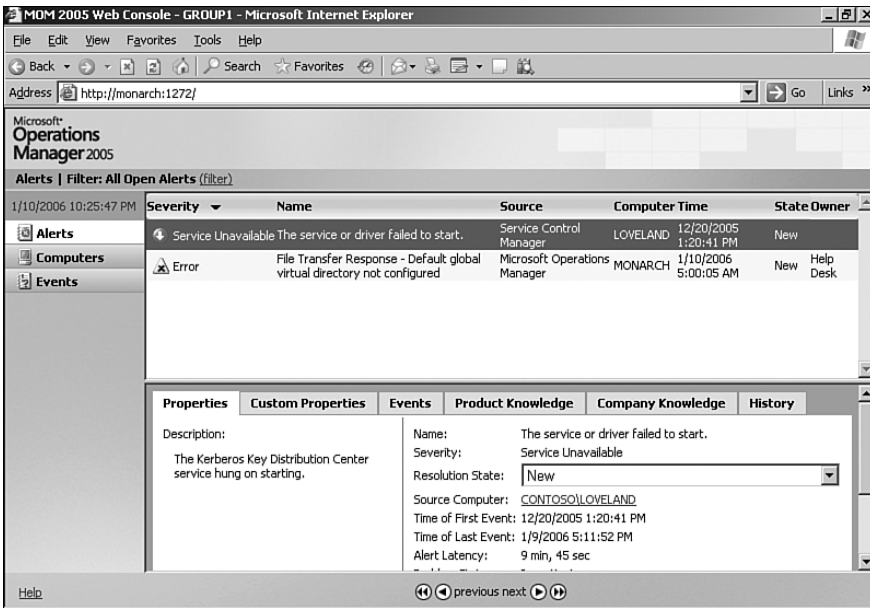

FIGURE 2.6 The MOM 2005 Web console.
*servername* is the management server with the software loaded for the Web console, and *portnumber* is the default port number 1272. Figure 2.6 shows the Web console.